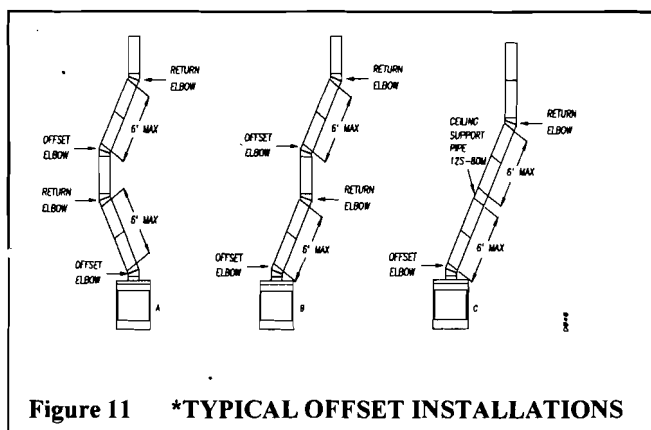

Figure 11 *TYPICAL OFFSET INSTALLATIONS
- Maximum length of pipe between supports (return elbow or 12S-8DM) is 6' of angled run. Maximum of two (2) 6' angled run sections per chimney system (see figure 11).